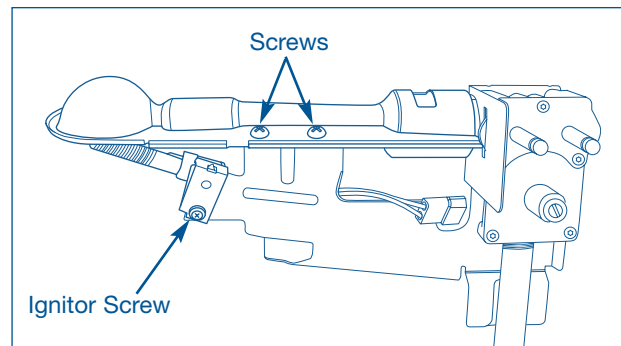

Figure 4-53.
7. Using a #2 square bit screwdriver, extract the screws securing the burner assembly to the gas valve mounting bracket. (See Figure 4-53)
9. Extract the screw securing the ignitor to the gas valve mounting bracket. Lift the ignitor off the tab and remove from bracket. (See Figure 4-53)